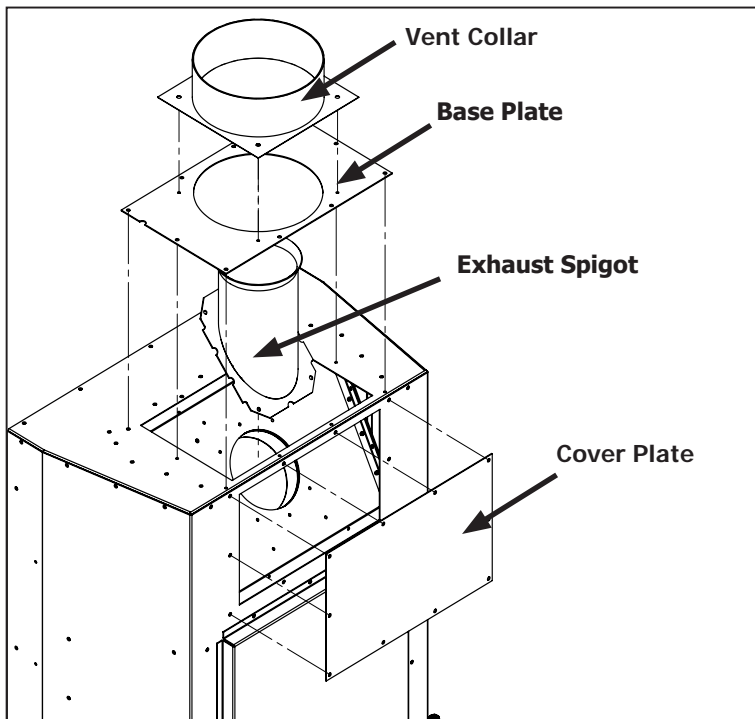

Figure 23. Vent Conversion - Step 1
Step 1: Using a T20 screwdriver remove the vent collar, base plate, cover plate and exhaust spigot (28 screws total) as shown in Figure 23.